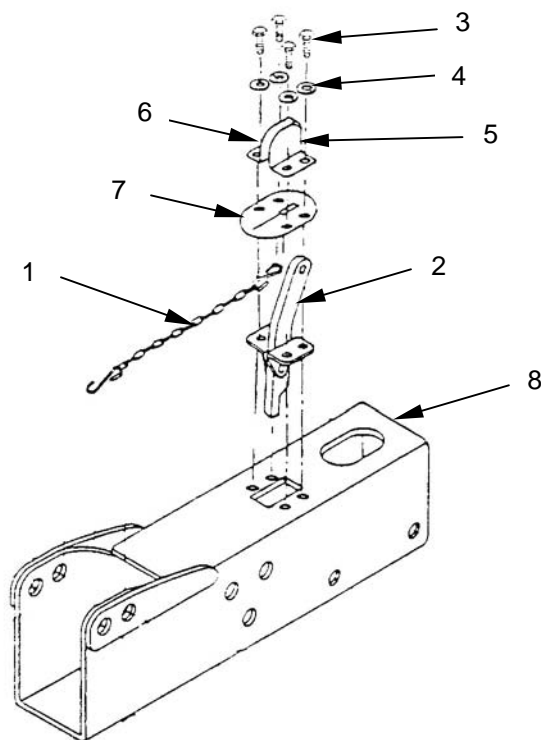

Figure 14. Breakaway Assembly
- a. Remove chain (**figure 14, item 1**) from breakaway lever (**figure 14, item 2**).
- b. Remove mounting bolts (**figure 14, item 3**) and lockwashers (**figure 14, item 4**).
- c. Remove left (**figure 14, item 5**) and right (**figure 14, item 6**) breakaway locks.
- d. Remove weather seal (**figure 14, item 7**).
- e. Remove breakaway lever (**figure 14, item 2**) from outer case (**figure 14, item 8**).